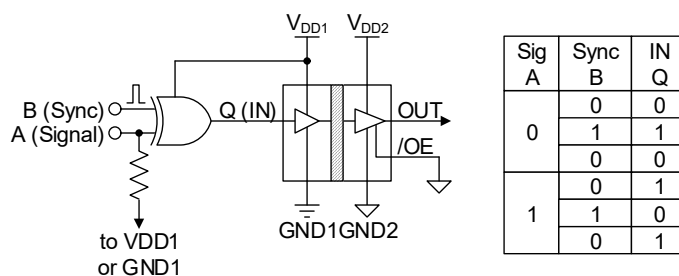

Figure 28. Sync Circuit with EXOR Truth Table
To ensure that the isolator is in a known output state, the input signal must be EXOR-ed with a sync-pulse (see Figure 28). Here, the required output state after power-up is defined by the logic state of EXOR input A. When V_{DD1} is fully established, applying a sync-pulse (low – high – low) to EXOR input B causes a pulse at the isolator input (IN). This latches the logic state at input A into the GMR bridge across the barrier. *Note:* The pulse width at IN must be $\geq 10\text{ns}$. After the application of the sync pulse, powering up V_{DD2} , the isolator output assumes the required output state.